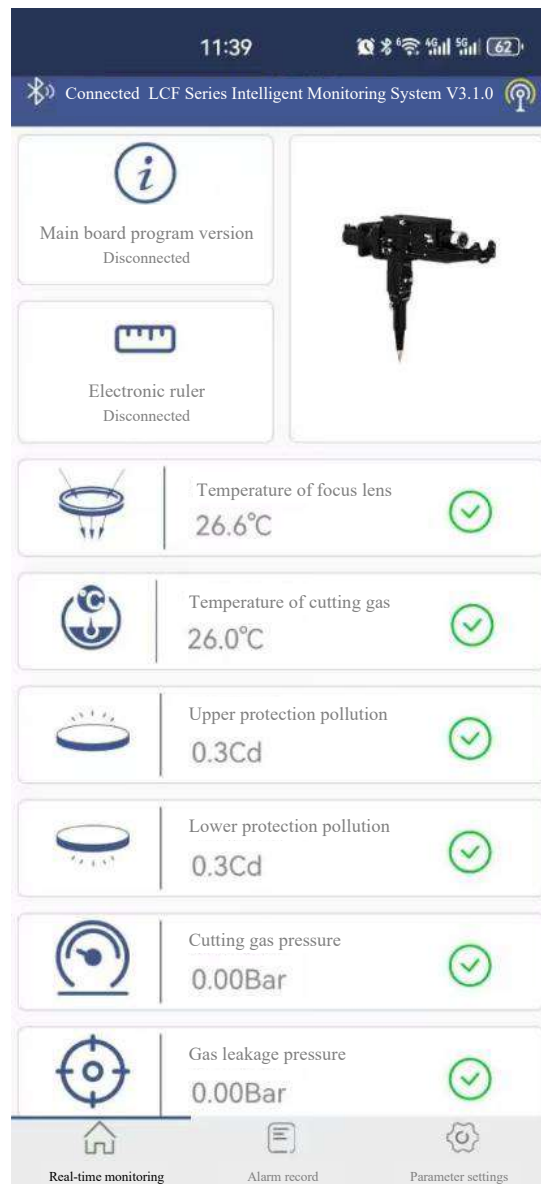

Figure 2.8
- ① After running LCF APP application, the color of progress bar on the main interface will change based on the actual temperature value detected, as shown in Figure 2.8 Green: The lens temperature is normal according to the monitoring results and can be used normally. Yellow: The lens temperature is too high; check if the lens are polluted. Red: The lens temperature is extremely high and cannot be used continuously. Shut down the device for check.